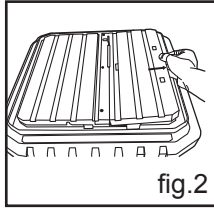

fig.2
- Remove the cover (45° vertical fence) of the water tank (fig. 2).